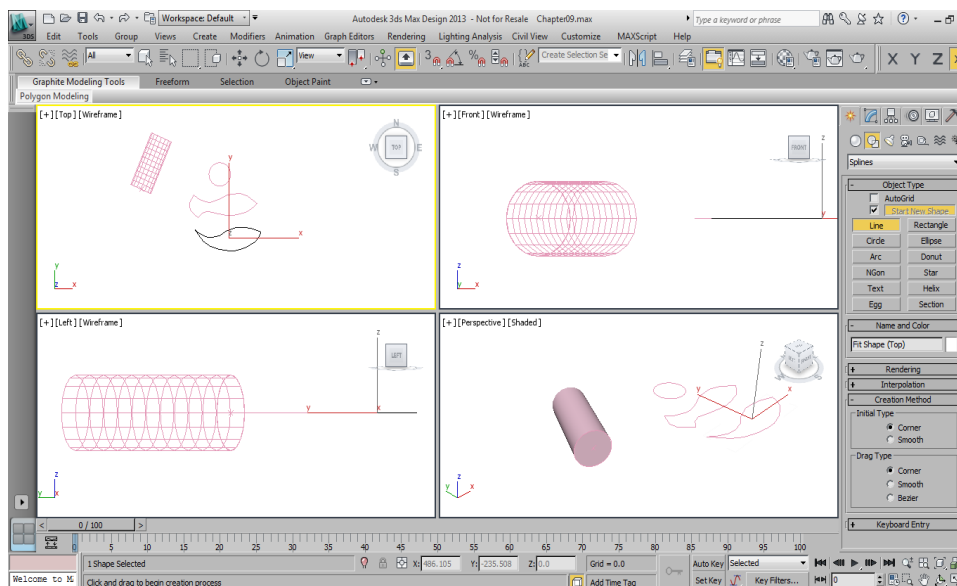

Figure 9-14 Two closed shapes created in the Top viewport
1. Pick the **Create** tab in the **Command Panel**. Pick the **Shapes** button and then the **Line** button. In the Top viewport, use the **Line** tool to draw a closed shape that represents the way you want the side view of the loft object to appear. Make the shape approximately of the same length as the loft object. Name the line as **Fit Shape (Side)**. Draw another closed shape that represents the way you want the loft object to appear when viewed from the top. Name this line as **Fit Shape (Top)**. Pick the **Zoom Extents All** button, **Figure 9-14**.